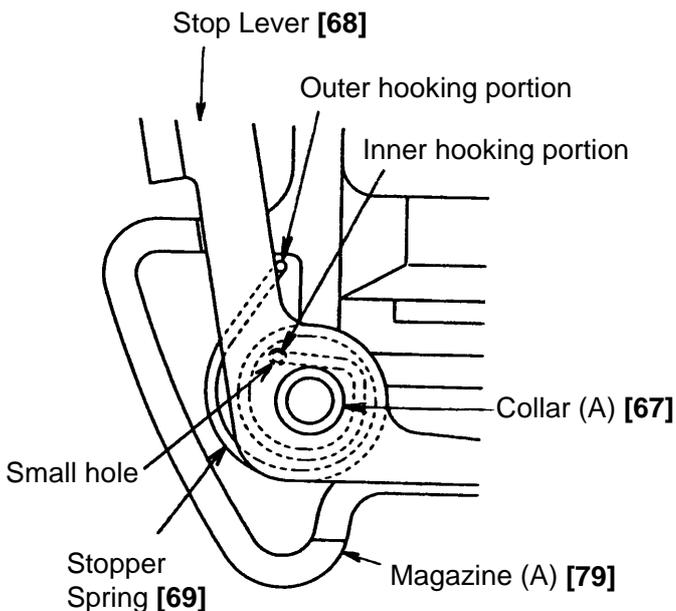

Fig. 19
- Mount the Guide Rail [72] and the Nail Feeder [74] to Magazine (A) [79] together and then mount the Magazine components to Magazine (A) [79].
- Insert the inner hooking portion of the Stopper Spring [69] into the small hole of Magazine (A) [79] and hook the outer hooking portion on the Stop Lever [68] as illustrated in Fig. 19.
- Check that Magazine (A) [79] and Magazine (B) [71] are correctly mated.
- Check that the Lock Nut M5 [81] is put in the hexagonal groove made at the lower position of Magazine (A) [79] and the Magazine (B) [71] .